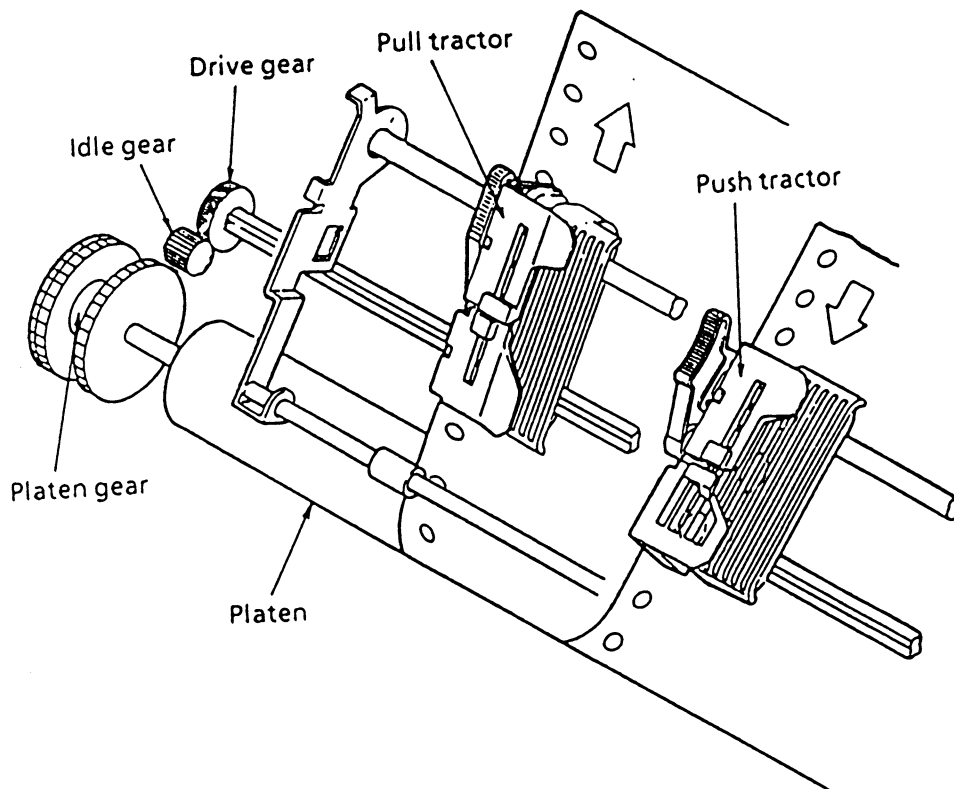

Figure 3-11
**(4) Push and pull tractor mechanism (Option) (See Figure 3-11)**